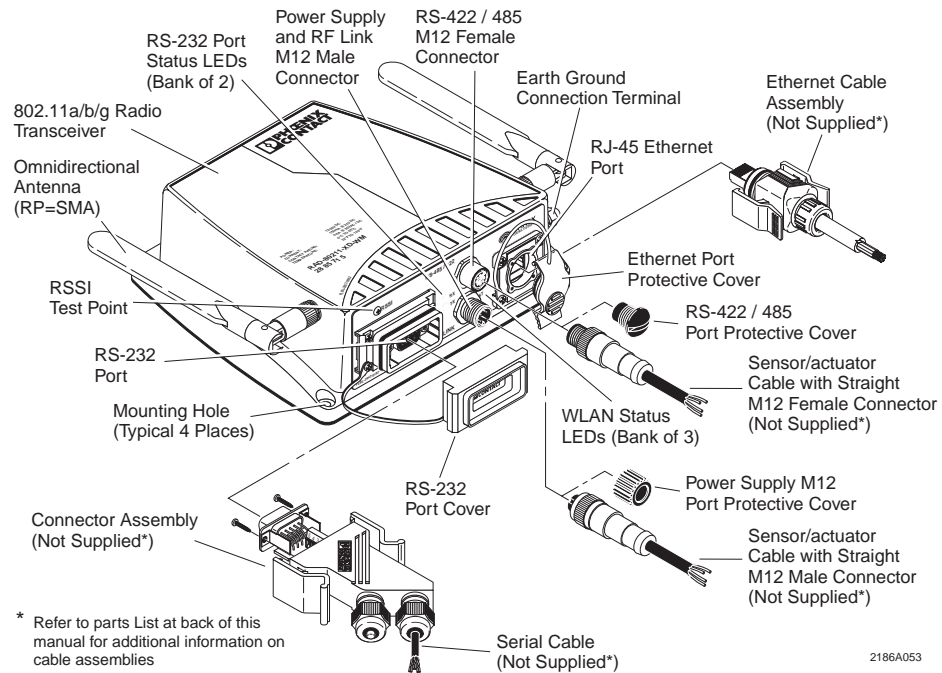

Figure 1-2. Features of the RAD-80211-XD-WM Wireless Radio
The RAD-80211-XD-WM is a wall mount radio rated IP67. See Figure 1-2. This radio features waterproof connectors for the connection of Ethernet and RS-232 and RS-422/485 devices. It can be powered via a standard power supply or Power-over-Ethernet (PoE). The RAD-80211-XD-WM features an RF link dry contact for indicating a radio link and an RSSI (Received Signal Strength Indicator) voltage test point to aid installation and troubleshooting. The RAD-80211-XD-WM radio comes with two (2) sealed antenna connectors for antenna diversity.